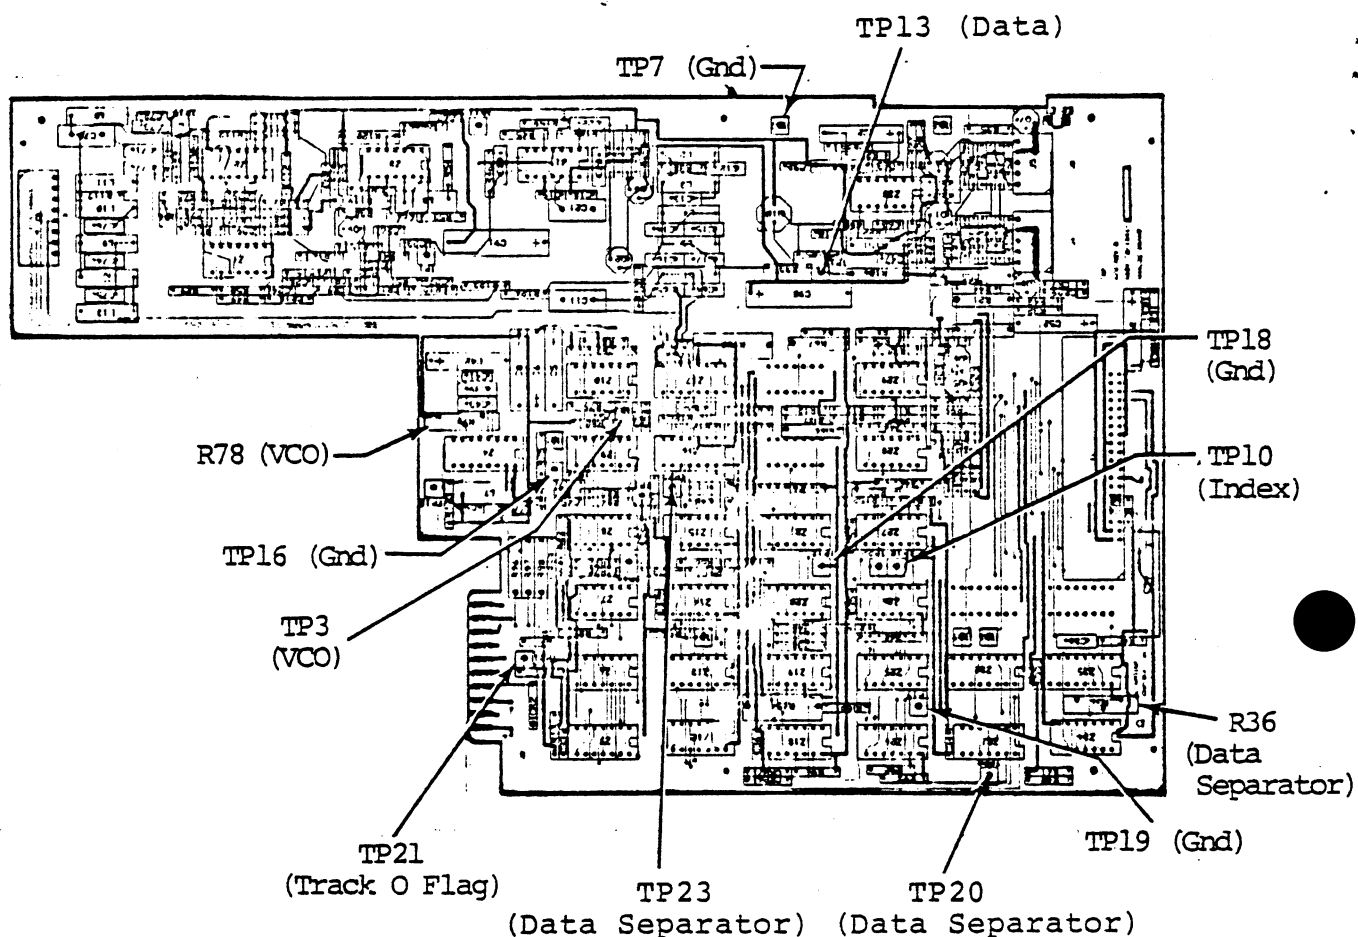
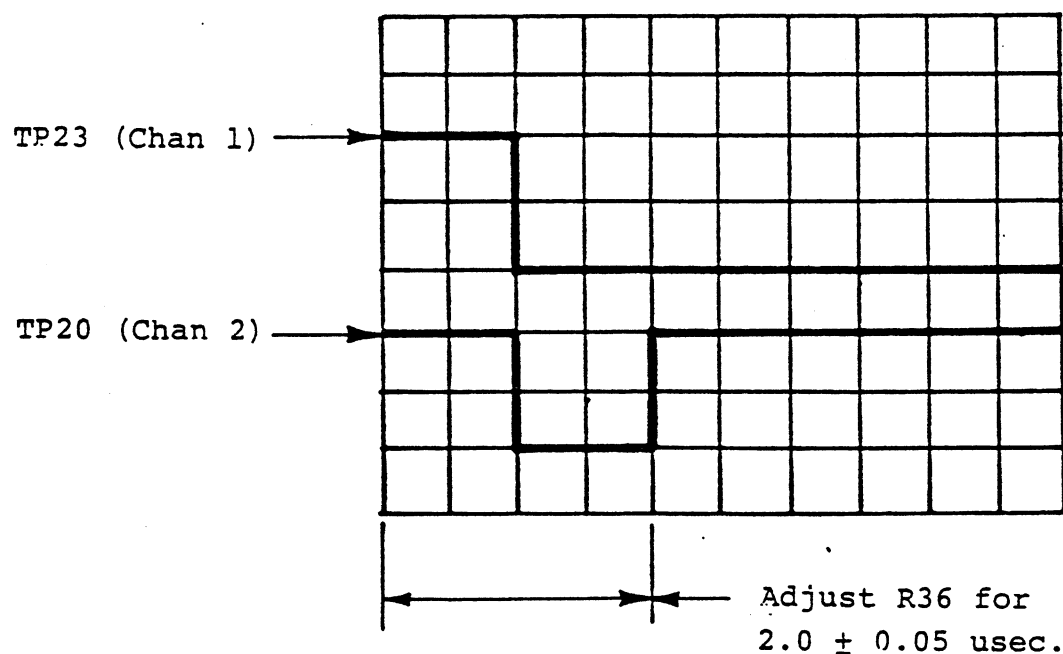

Figure 4-12. Component Locations on Analog Board (A1A1)
Figure 4-13. Data Separator Adjustment
- c. Check that stop has $.030 \pm .010$ " clearance between collar and carriage. Turn power OFF and manually rotate lead screw clockwise (CW) until carriage stops. Check that stop has $.020 \pm .010$ " clearance between collar and carriage.
- b. Connect oscilloscope probe to TP21 on the analog board (Figure 4-12). Set vertical deflection to 1 v/division and sweep to AUTO.
- b. Connect multimeter voltage lead to TP3 and ground lead to TP16 on analog board. NOTE: If an oscilloscope is used in lieu of the multimeter, connect oscilloscope 10X probe to TP3 and ground lead to TP16 on analog board. Connect sync probe to TP10 (INDEX) and ground lead to TP18 on analog board (Figure 4-12). Set scope for internal sync, AC coupling, 2 v/div., and 5 msec/div.
- c. Adjust R78 on analog board (Figure 4-12) for 2.3 ± 0.1 VDC.
- b. Connect oscilloscope channel 1 10X probe to TP23 and ground lead to TP18 on analog board. Connect channel 2 10X probe to TP20 and ground lead to TP19 on analog board (Figure 4-12). Set scope for internal sync, AC coupling, 2.0 v/div., and 0.5 usec/div. Trigger positive on channel 1. Set channels to alternating for scope display as shown in Figure 4-13.
- c. Adjust R36 on analog board (Figure 4-12) for 2.0 ± 0.05 usec internal between leading edge of TP23 (channel 1) and trailing edge of TP20 (channel 2) as shown in Figure 4-13.